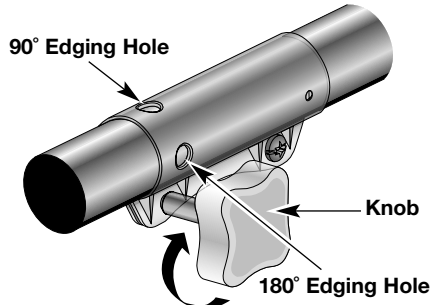

Fig. 15
3. Turn the knob clockwise to tighten (Fig. 15).
For edging with Click-Link® models, lock the release button of the cutting attachment into the **90° edging hole** or the **180° edging hole** (Fig. 15).
For edging with Model 775r, lock the release button of the cutting attachment into the 90° edging hole or the 180° edging hole (Fig. 15, Pg. 14).